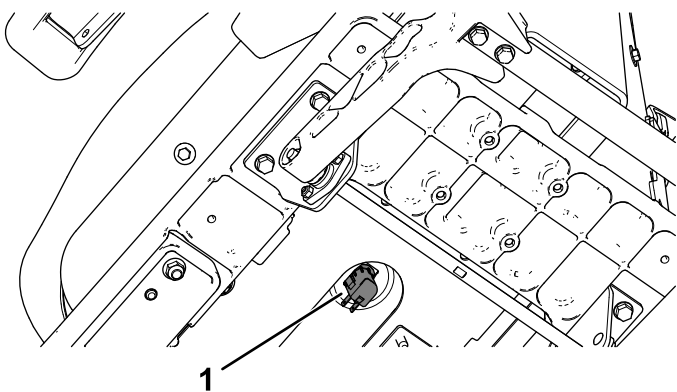

Figure 10
6. Rotate the seat assembly upward and connect the wire harness to the seat switch on the bottom of the seat (Figure 10).